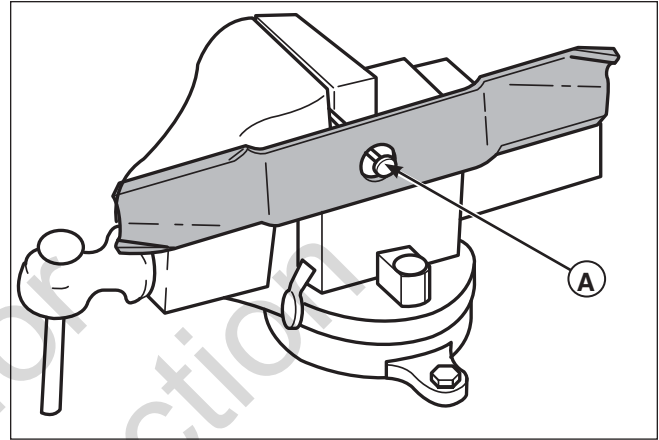

Figure 22. Balancing the Mower Blade
2. See Figure 22. Put the mower blade on a nail in a vise and turn the mower blade to the horizontal position.